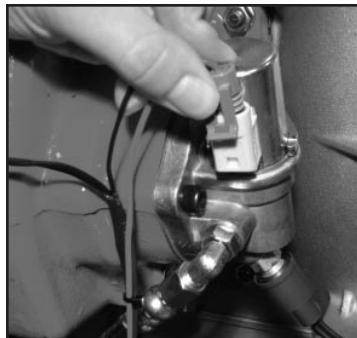

Fig. 12
12. Complete the assembly by installing the electrical connection to the valve assembly (**Fig. 12**) and the pressure switch (**Fig 13**).